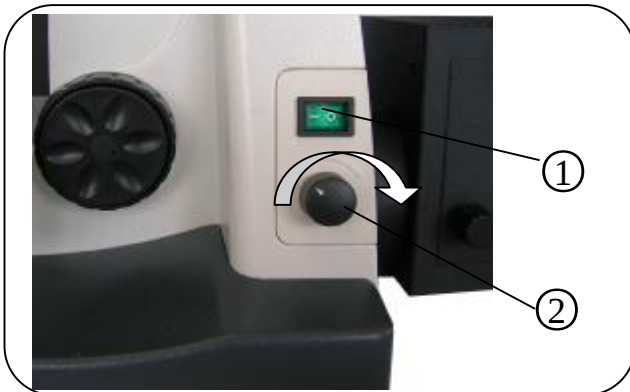

Fig. 6.
1. Brightness adjustment (Fig. 6.)